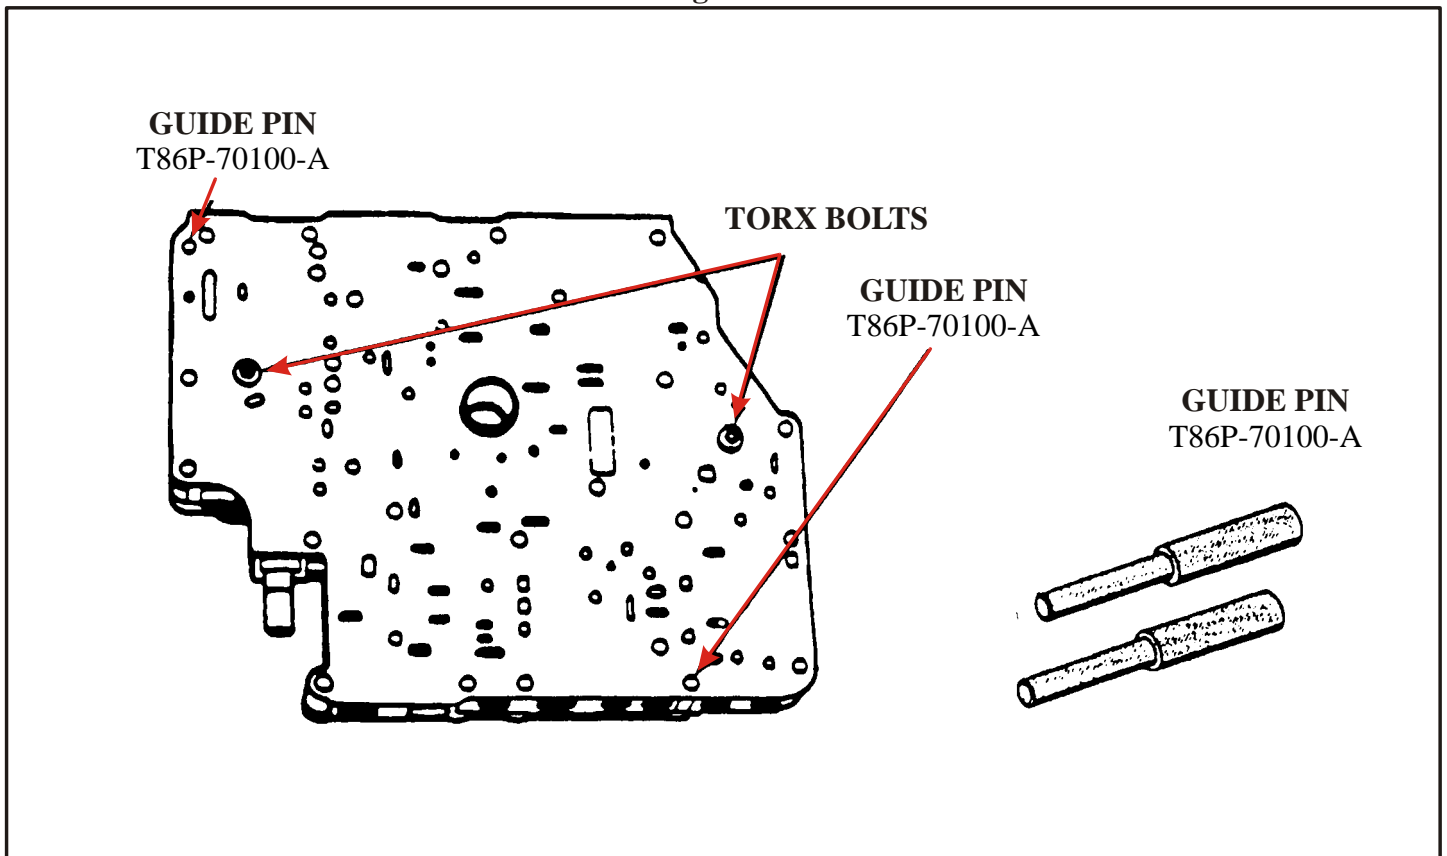

Figure 2
6. Insert two (2) valve body guide pins T86P-70100-A (.271" Diameter) as shown in Figure.2.